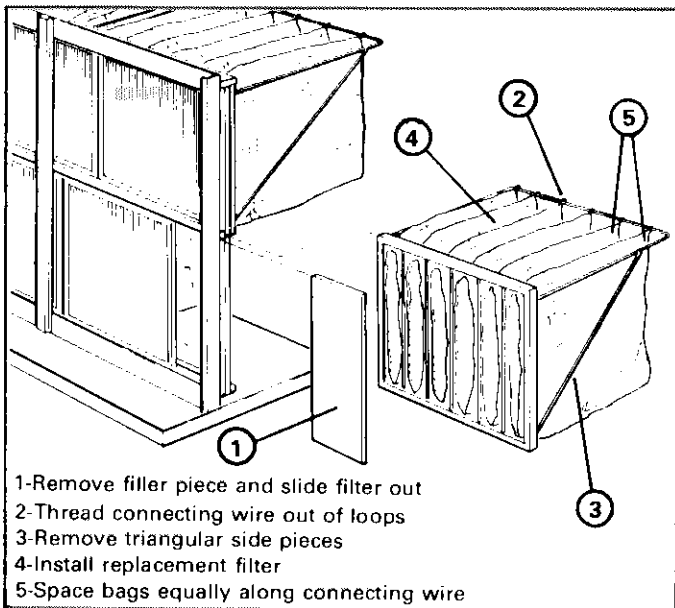

FIGURE 127
- 2 - To change bag assembly filters, pull old filters from unit as shown in Figure 127. Remove wire support rack from filter frame and reinstall on replacement filters: